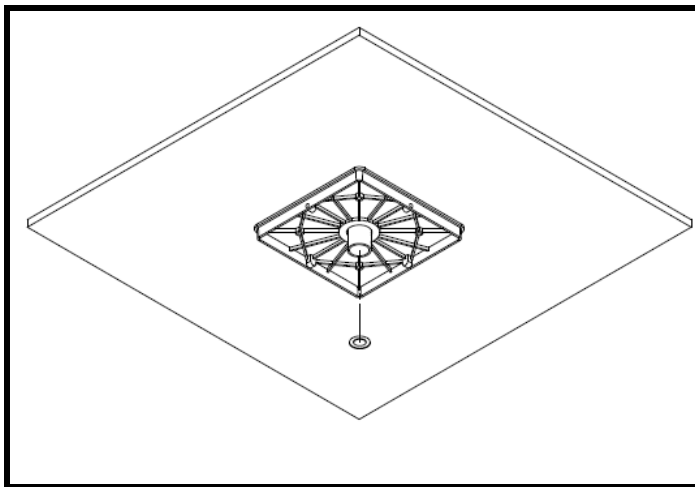
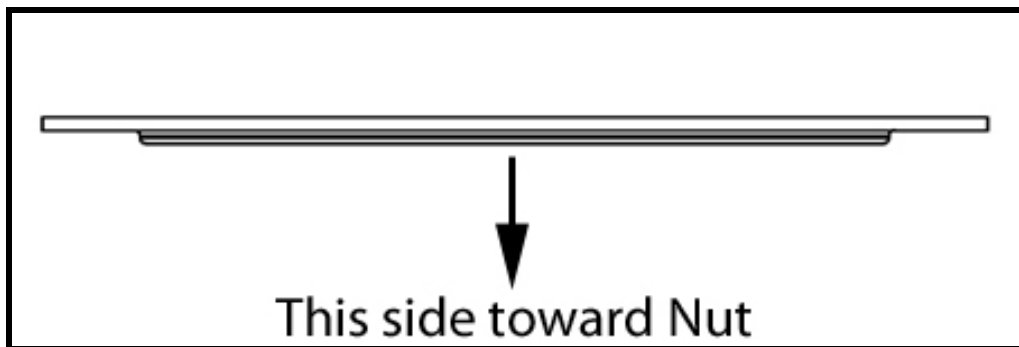

Figure 9 – Mount Plate
Figure 11 - Washer Orientation
1. Install mount plate to the underside of the canopy where the conduit has been run for that specific lane and device. See **Figure 9 & 10**. Add washer and nut. See **Figure 11** for washer orientation.